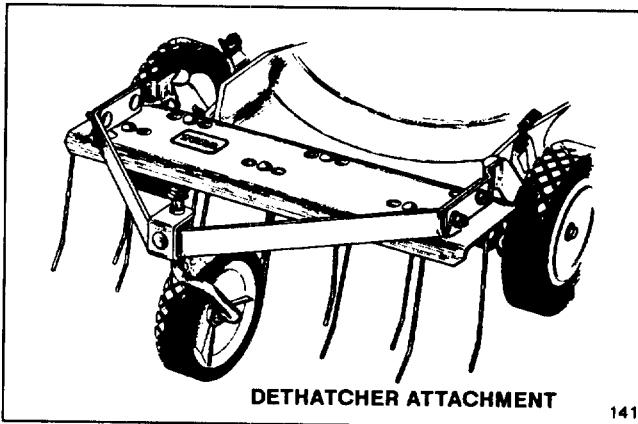

Figure 29
3. **Dethatcher Kit, Model 59131**—Installs in minutes. Front mounted for easy maneuverability. As spring tines scratch and vibrate through the grass, thatch is loosened and cut and recut by the mower (Fig. 29).